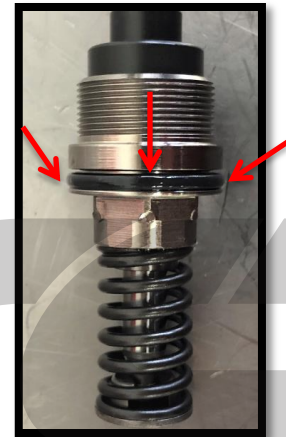

Figure 6a
- a) Remove the OEM Piston Housing Seal Screw O-ring. Use a pick tool or tweezers to remove this O-ring from the seal screw. Shown with **red arrows** in **Figure 6a**.